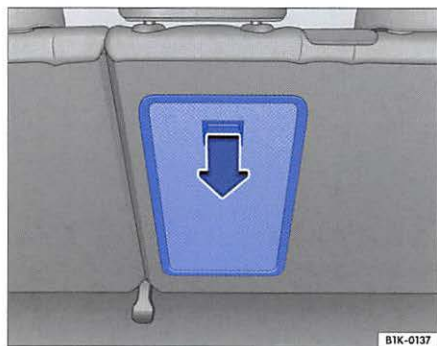

Fig. 52 Opening from the luggage compartment
- Press down the release button in the direction of the arrow ⇒fig. 52 and fold the cover toward the interior of the vehicle. When the cover is unlocked a red marking will be visible on the release button.